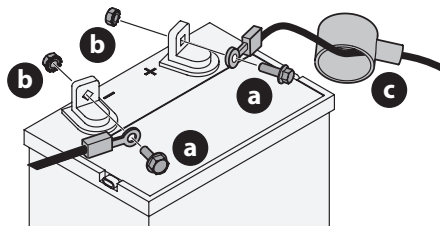

Fig. 13
- If present, remove the plastic cover from the positive battery terminal. Attach the red connector to the positive battery terminal (+) using the bolt (a) and hex nut (b) (Fig. 13).
- Position the red rubber boot (c) over the positive battery terminal to help protect it from corrosion (Fig. 13).
- If present, remove the plastic cover from the negative battery terminal and attach the black cable to the negative battery terminal (-) with the bolt (a) and hex nut (b) (Fig. 13).